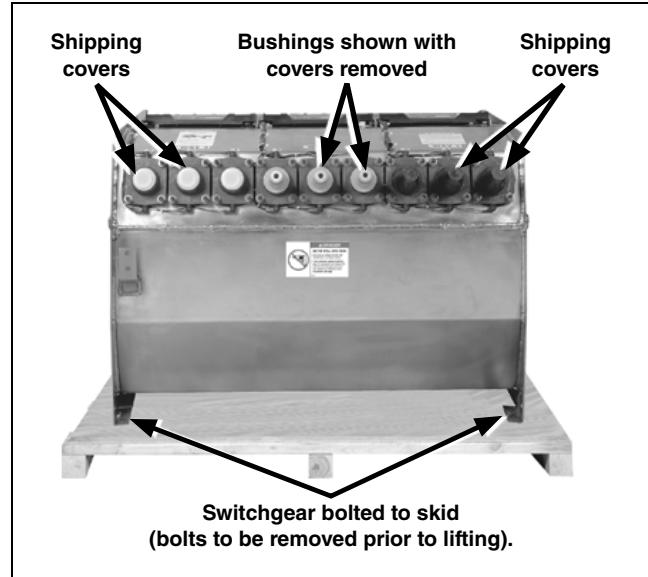

Figure 77. A Vista switchgear tank bolted to a skid in four places for shipment. (Manual unit shown for illustration purposes.)
- STEP 2.** Unbolt the tank from the skid, remove the switchgear from its crate, and lift the gear into place, observing the precautions given in the “Handling” section on page 8. See Figure 3 on page 8 and Figure 77.